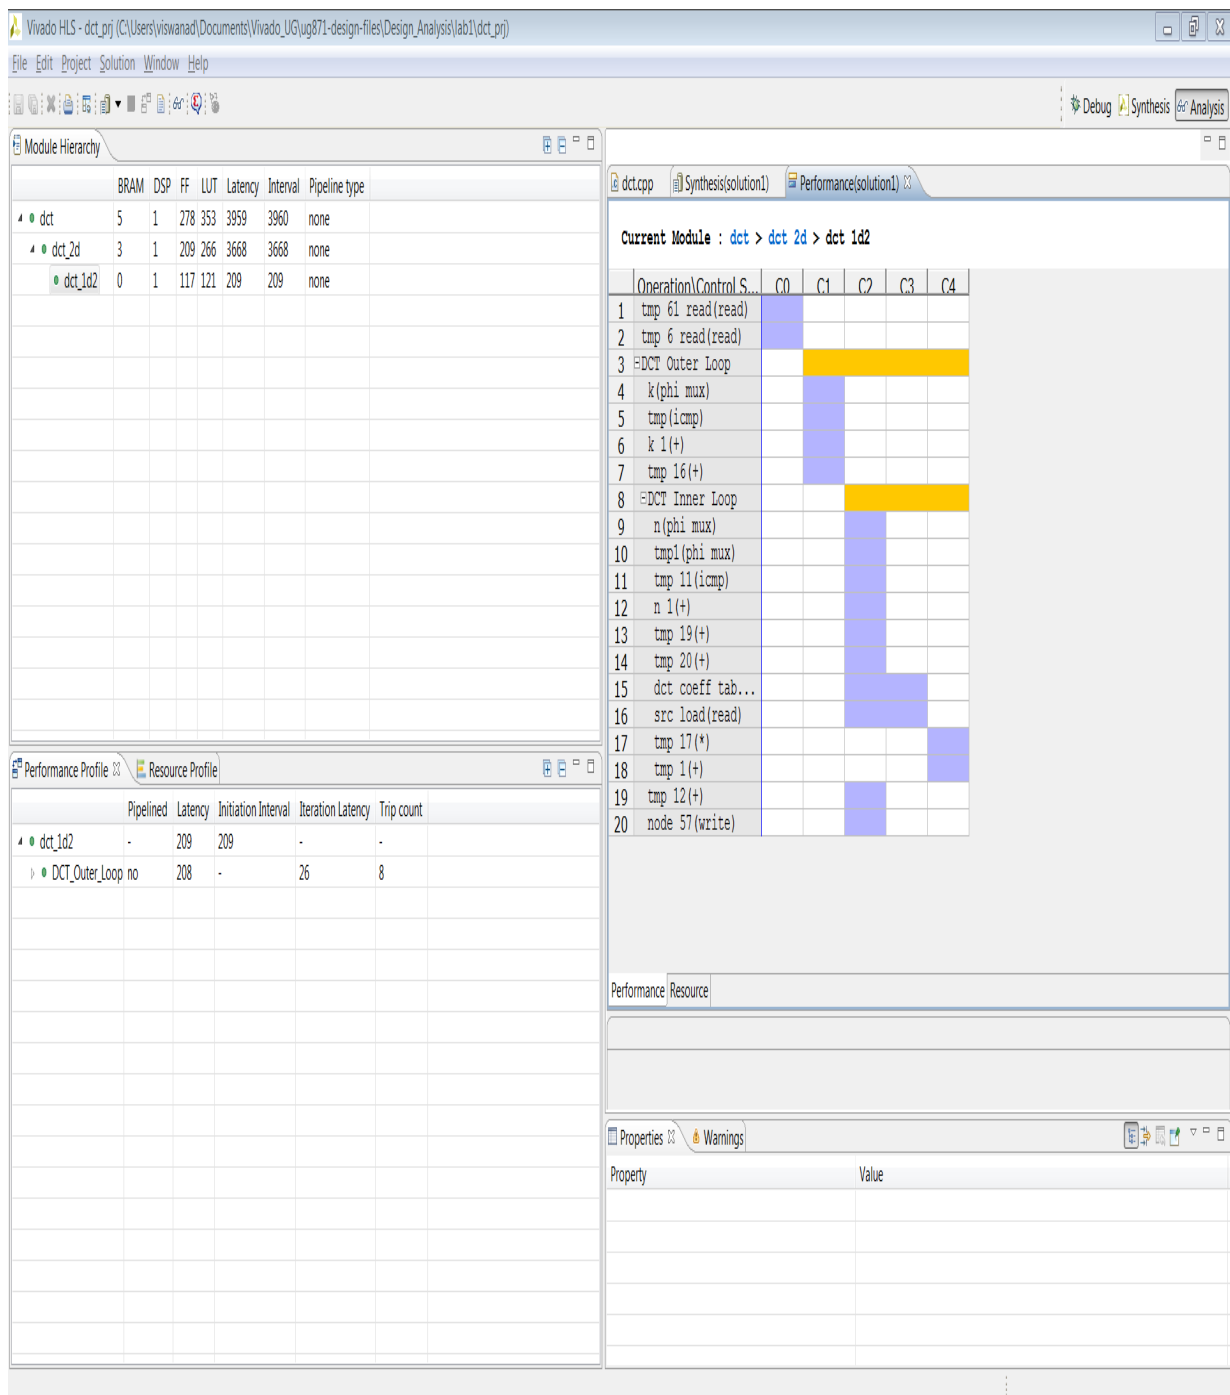

Figure 6-12: DCT_1D Performance View
Again, you can see a number of loops (shown in yellow in Figure 6-12). Loops ensure the design will have small area but the design will take multiple iterative states to complete: each iteration of the loop will complete before the next iteration starts.
7. Click loops **Row_DCT_Loop** and **Col_DCT_Loop** in the performance viewer to fully expand them, as shown in Figure 6-12.
9. Expand the loops in the **Performance Profile** and **Performance** view to see the view shown in Figure 6-12.
In Figure 6-12 you can see a series of nested loops that can be pipelined.